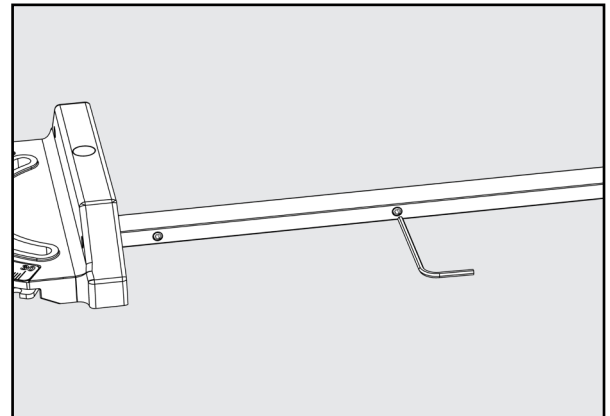

Figure 29
1. Use a 3/32 inch Allen wrench on any of the three set screws located on the side of the bar. See Figure 29 and 30.